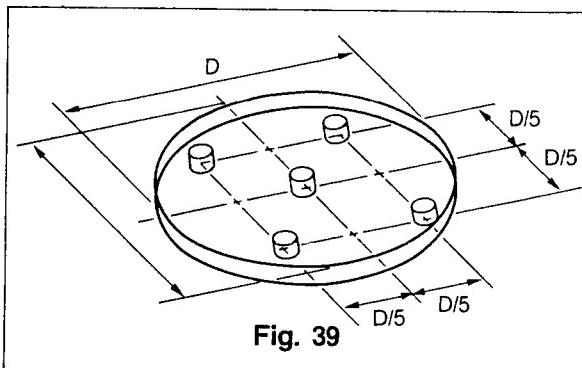

Fig. 39
- 4) Put each beaker in place on the cooking tray as illustrated in Fig. 39 and start heating.